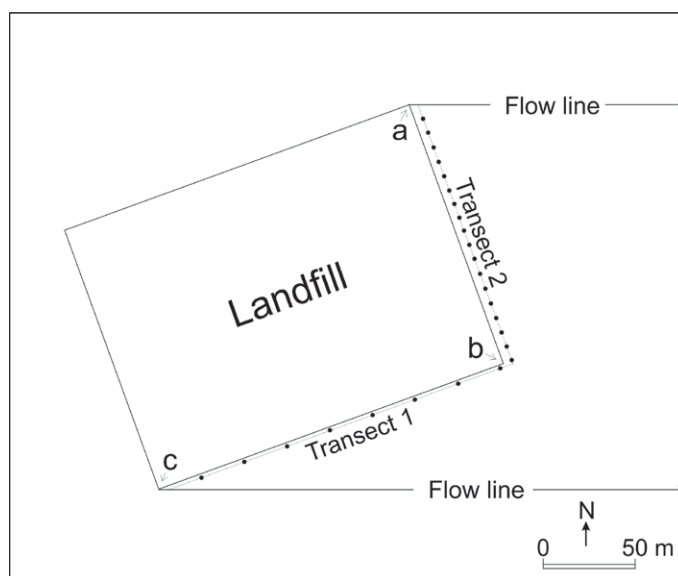
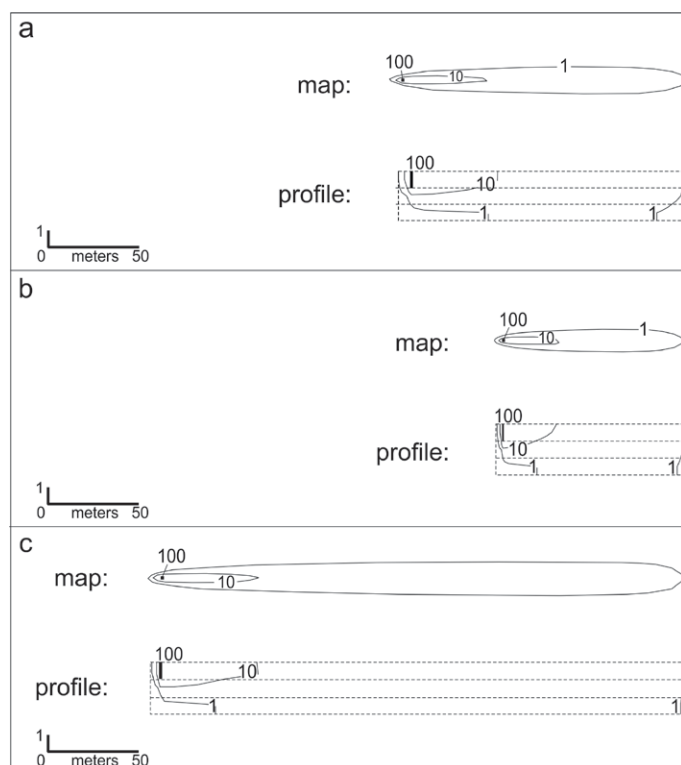

Figure 1. Map of landfill, vertical detection wells (dots), and horizontal monitoring transects; b – downgradient corner; a and c – cross-gradient corners.
Figure 2. Maps and longitudinal cross-sections of contaminant plumes (mg/L) originating at points a, b, and c in Figure 1.
A numerical model, MT3DMS (Zheng and Wang, 1999), was used to simulate releases from a hypothetical lined landfill above an unconfined sand aquifer (Figure 1). A graphical user interface, Processing MODFLOW 8 (Simcore Software, 2025), processed input and output data for MT3DMS.
The block-centered finite difference model had three layers, 370 columns, 310 rows, and a 1-meter (m) node spacing. Hydraulic head (H) was constant at the western ($H = 3.000$ m) and eastern ($H = 2.262$ m) boundaries, producing an average hydraulic gradient of 0.002 eastward. Groundwater did not cross the northern, southern, or lower boundaries of the model (Figure 1). Other parameters, typical of sandy alluvium (API, 1989), were: hydraulic conductivity = 2 meters/day (m/d); vertical hydraulic conductivity = 0.2 m/d; effective porosity = 0.25; longitudinal dispersivity = 1.0 m; transverse horizontal dispersivity = 0.1 m; transverse vertical
A vertical monitoring network was designed by placing wells along linear transects located 5 m (measured parallel to groundwater flow) downgradient of the landfill (Figure 1). Each well was screened across and sampleable in each layer of the model. In practice, straddle or multipurpose packers can isolate discrete intervals of well screen (Holloway and Waddell, 2008; Pulido et al., 2004).
Contaminant plumes sourced under the landfill's downgradient boundary segments were evaluated for maximum cross-gradient width at the associated monitoring transect prior to reaching a property boundary; these widths were used to place a minimum number of wells to detect all possible releases (Figure 1). CorelDraw (Corel Corporation, Ottawa, Ontario) was used to superimpose contaminant plumes output from MT3DMS onto a digital map,
Contaminant plumes were widest and thus easiest to detect in the upper layer. To detect all releases, the vertical network required 26 wells (Figure 1). Transect 1 required fewer wells because contaminant plumes cross it more obliquely, with a broader portion of the plume traversing the transect. Numerous wells were required due to the small point source. In practice, while many landfills of comparable size have fewer wells, they are unlikely to detect a high percentage of small leaks from random locations over the entire footprint of the landfill (Lee and Jones-Lee, 1994). Alternatively, the horizontal network consisted of two screened segments, 200-m and 150-m long, in the upper layer (Figure 2).
Furthermore, horizontal wells cannot access groundwater when the water table falls beneath them. To address this problem, horizontal wells can be installed at deeper intervals of the saturated zone, but doing so might lower detection efficiency. In this example, with hydrodynamic dispersion, contaminant plumes sourced beneath the landfill's downgradient boundary reached the upper and middle layers, but not the lower layer (directly beneath the boundary), before reaching the property boundary (Figure 2). Thus, horizontal wells near the landfill's downgradient boundary could occupy the upper or middle layer and perform effectively but would lose detection efficiency in the lower layer.
Often, monitoring wells are sampled at discrete vertical intervals to profile a contaminant plume. This capability is lost with horizontal wells, though they add capability for resolving plumes in horizontal space. Sampling each discrete interval of a horizontal well would be impractical; instead, the well could be sampled at strategic locations, such as those identified in x-y space for vertical networks (Figure 1). Alternatively, an electrical conductivity probe could be pulled through a horizontal well and take continuous readings to target intervals that should be sampled for comprehensive laboratory analysis.
Mineral-fluid interactions in sedimentary and hydrogeologic systems are governed not only by thermodynamic equilibrium, but also by reaction kinetics, commonly referred to as the "kinetic effect". In many natural carbonate systems, fluids may be undersaturated or supersaturated with respect to calcite or dolomite, yet mineral reactions proceed slowly due to kinetic inhibition. This behavior is especially important in applied geology contexts, including reservoir characterization, groundwater geochemistry, and carbonate diagenesis (Figure 1).
Figure 1. Conceptual model illustrating kinetic controls on carbonate diagenesis, including fluid-flow pathways, residence/time effects, incomplete equilibrium, porosity enhancement, and cemented zones (Modified from Whitaker et al., 2004; Lasaga, 1998).
This equation describes the rate of precipitation, where the change in concentration over time (dc/dt) is determined by the difference between the current concentration and the saturation point. The term ($C - C_s$) represents the supersaturation driving force, while the rate constant (k_p) and the exponent (n) account for the specific kinetics of the reaction. In case if the condition $C > C_s$ is met, the negative sign indicates a decrease in solution concentration as the excess solute leaves the liquid phase to form a solid phase such as crystal formation from the pre-existing solution (Figure.2).
Figure 2. Conceptual relationship between reaction rate (dc/dt) and saturation state ($C - C_s$), illustrating kinetically controlled dissolution under undersaturation and nucleation-limited precipitation under supersaturation. Positive values (above zero) mean dissolution, mineral is dissolving into solution, and concentration in water increases. Zero value means the system is in equilibrium (no net dissolution or precipitation). Negative values (below zero) mean precipitation, mineral is forming from solution, and concentration decreases (Modified from Lasaga, 1998).